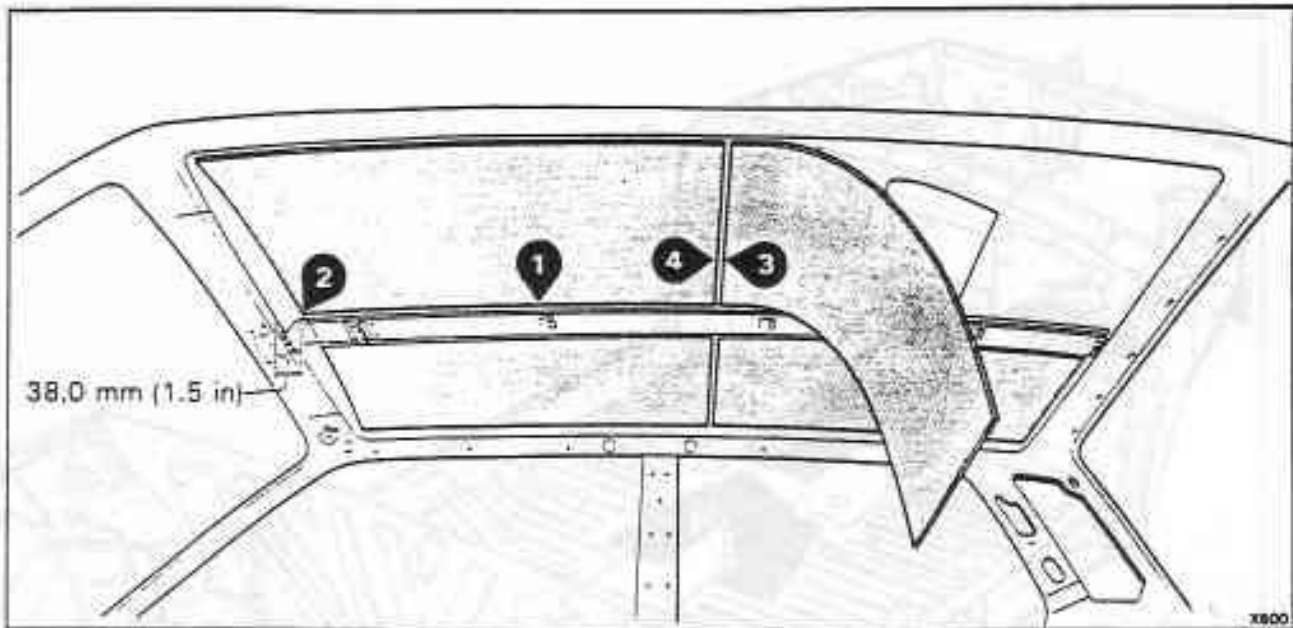

Fig. S8-14 Soundproofing material - roof and rear quarter panels
Soundproofing material - roof and rear quarter panels - To remove and fit (see fig. S8-14)
- a. Peel back approximately 75 mm (3.0 in) of the backing paper from the inner edge (see fig. S8-14, item 1).
- b. Align the front inner corner to the position shown in figure S8-14, item 2, then press the inner edge into position ensuring that it fits flush with the edge of the centre beam.